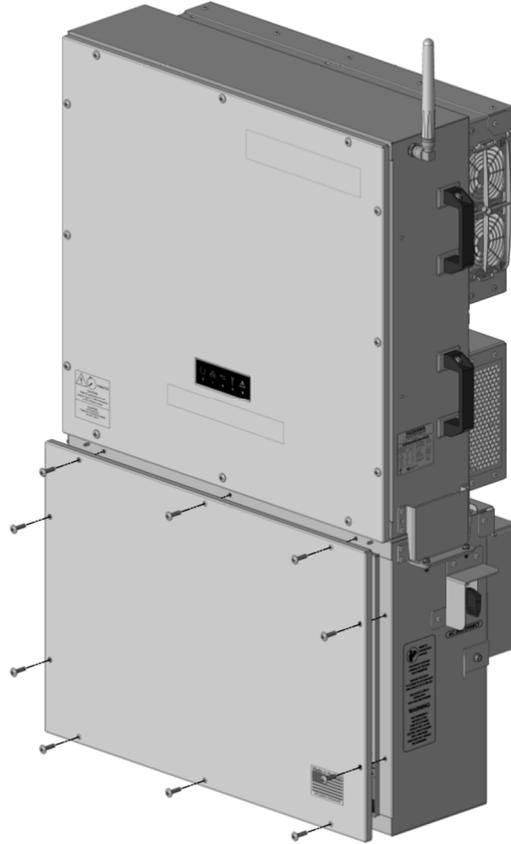

Figure 3-15 Remove Wire Box Cover Screws
Use a #3 Phillips-head screwdriver to remove the ten (10) screws from the cover of the Wire Box as shown in Figure 3-15.